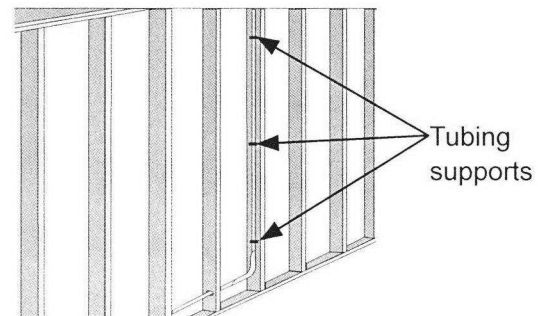

Figure 6-21: Vertical runs
2. Along vertical runs, install supports every 4' to 5' at each floor and at a mid-story guide (see **Figure 6-21**).